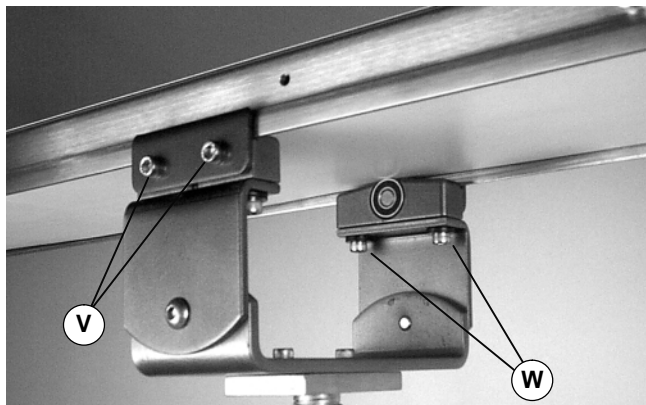

Figure 12
3. Attach clamp plates on each side of conveyor (Figure 12). Tighten the screws (V) to 9 Nm.